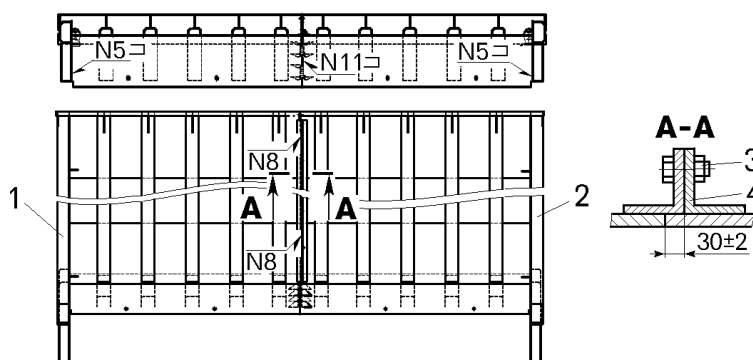

Figure 18 – Overhead guard:
– connect the components of the overhead guard 1 and 2 (Figure 18) over the mounting brackets 4 by means of the bolts 3;